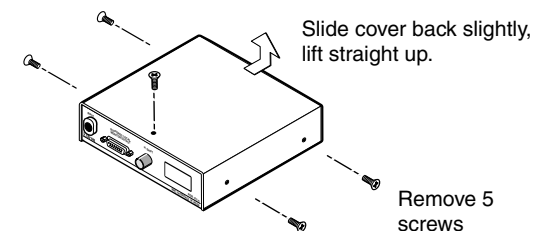

Figure 6 — Opening the interface cover
2. Remove the interface cover (the top half of the enclosure), as shown in figure 6. Remove the screws from the enclosure, slide the cover slightly towards the back of the enclosure, enough to clear the gain/peak switch, lift the cover, and place the cover upside down next to the base of the enclosure.